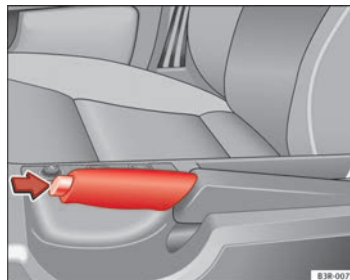

Fig. 141 Detailed view of the centre console: Handbrake on
- Pull the lever up slightly and *at the same time* press in the release button ⇒ Fig. 141 (arrow).